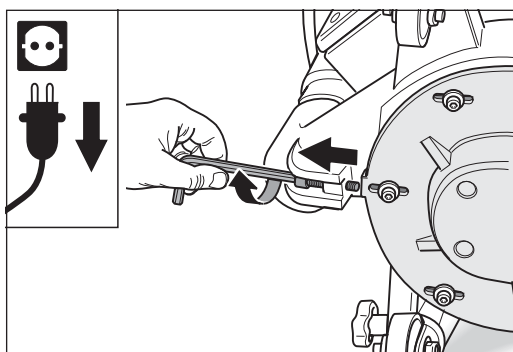

Fig. 65 Unscrew the belt-tensioning screw all the way out.
- 3 To relieve the V-belt tension, use the proper Allen key to unscrew the belt-tensioning screw all the way out until this screw disappears on the front side in the threaded hole of the fan housing (fig. 65).